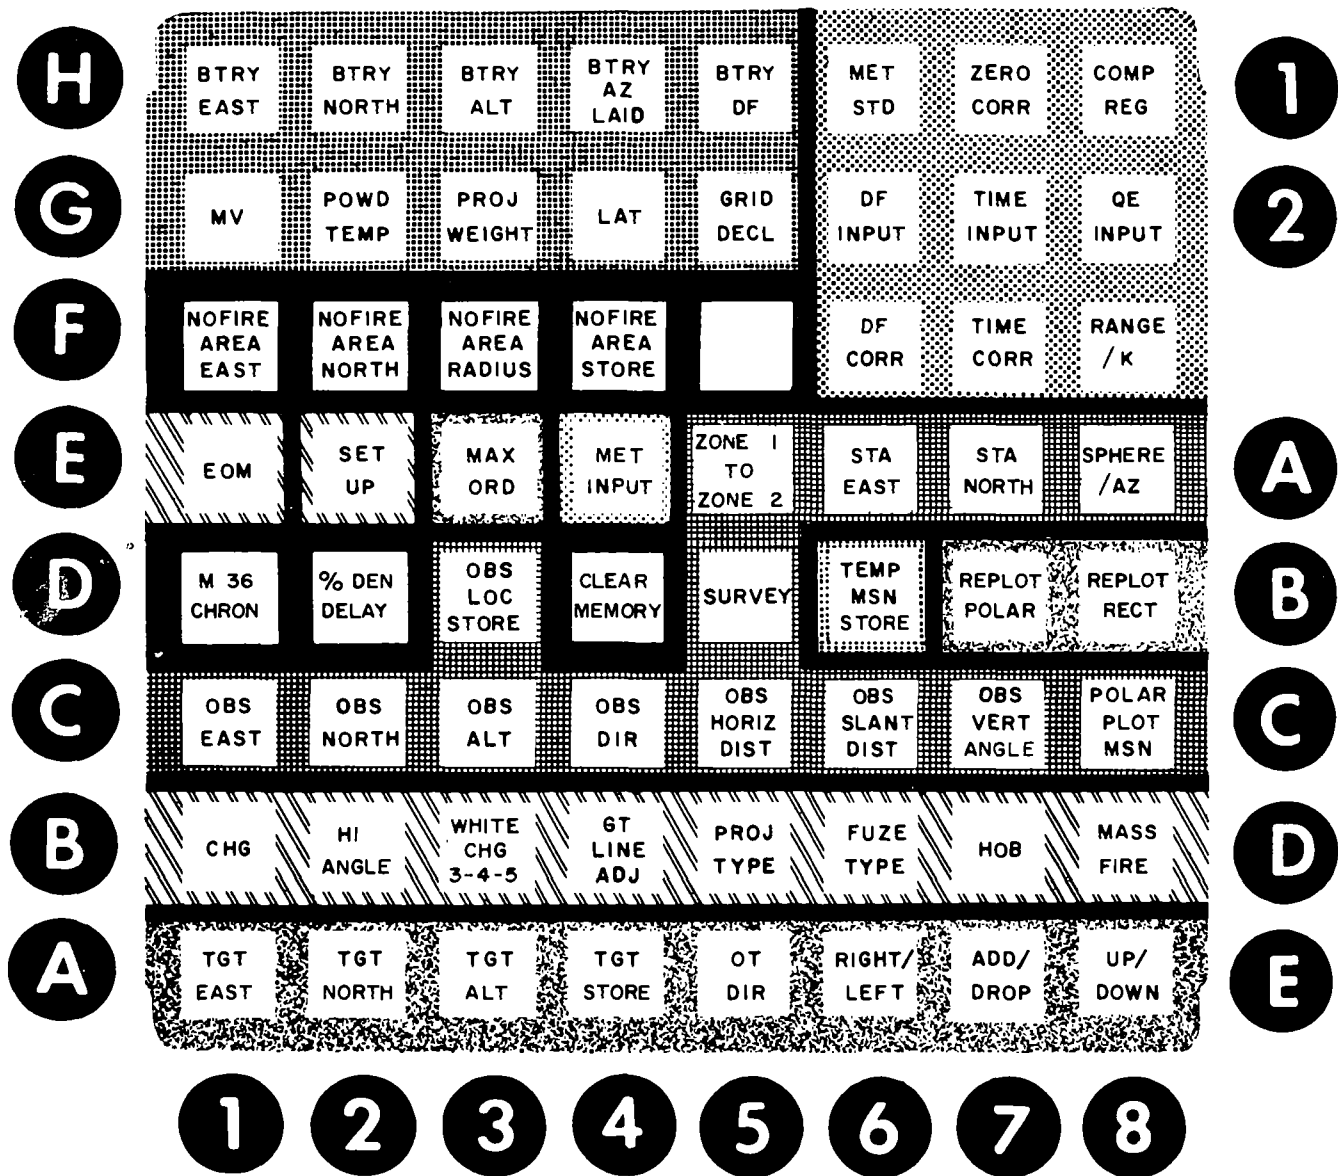

Figure 2-9. Input selection matrix.
a. The input selection matrix (fig. 2-9) consists of 64 windows. Along the left side of the matrix are eight buttons lettered A through H; along the bottom are eight buttons numbered 1 through 8. By depressing one letter button and one number button, the operator can select any one of 64 different inputs. As the operator selects an input, the appropriate window of the matrix lights. The use of each position of the input selection is explained in detail in table 2-1.